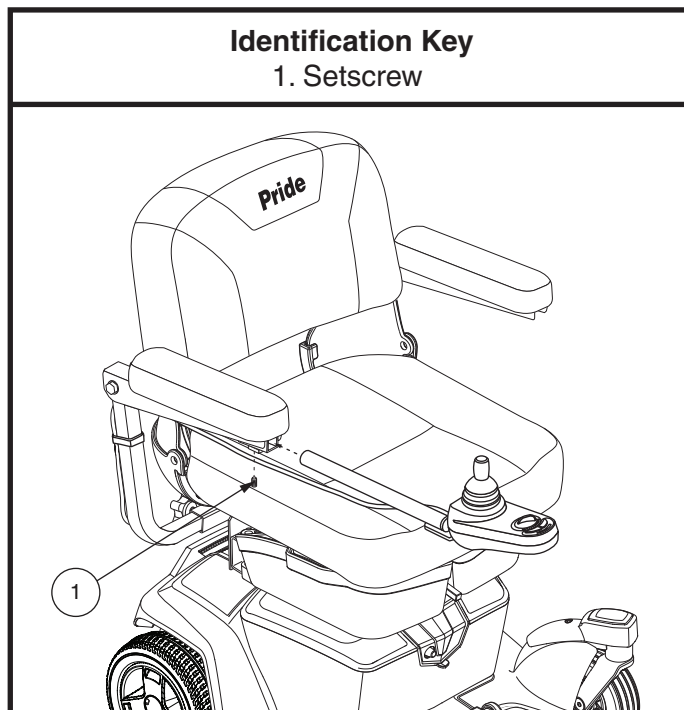

Figure 11. Controller Position
3. Flip up the armrest and loosen the setscrew. **See figure 11.**